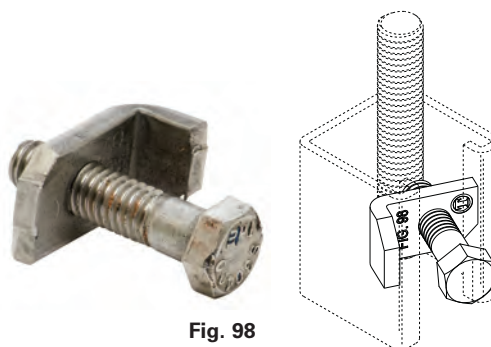

Fig. 98
TOLCO™ Fig. 98 - Rod Stiffener
Weight: Approx. Wt./100: Fig. 98 - 11.8 Lbs. (5.3kg)
- 1.) Rod stiffeners are required only on hanger and trapeze assemblies that have seismic bracing attached at or within 4" (101.6mm) of the rod. A minimum of two rod stiffeners (Figure 98, 98B, or SC228) must be installed.
- 2.) Recommended torque on Figure 98 and SC228 is 8 ft-lbs. (10.8Nm) or finger tight and one full turn with a wrench. Figure 98B has the break off bolt head.